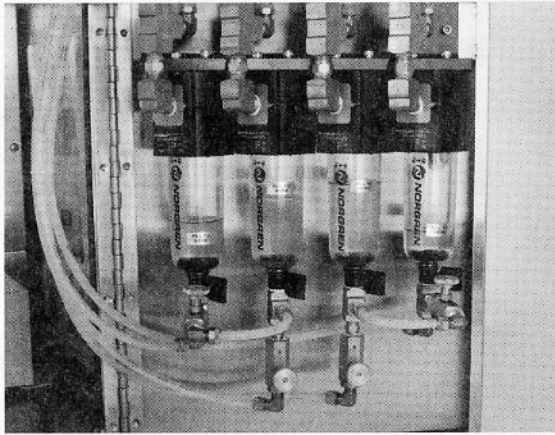

Fig. 32
If the Mineral Oil Level in Reservoir (A) is above the full line and the Oil Level in Reservoir (B) is below the full line (see fig. 32), turn Air ON and Loosen Locking Nut on Left Oil Leveling Valve. OPEN the Left Oil Leveling Valve COUNTERCLOCKWISE. The Oil Level in (A) will decrease and the Oil Level in (B) will increase. When the Oil Level in (B) reaches the full line, turn the Left Oil Leveling Valve CLOCKWISE TO STOP the flow of oil. Retighten Locking Nut on this Valve.